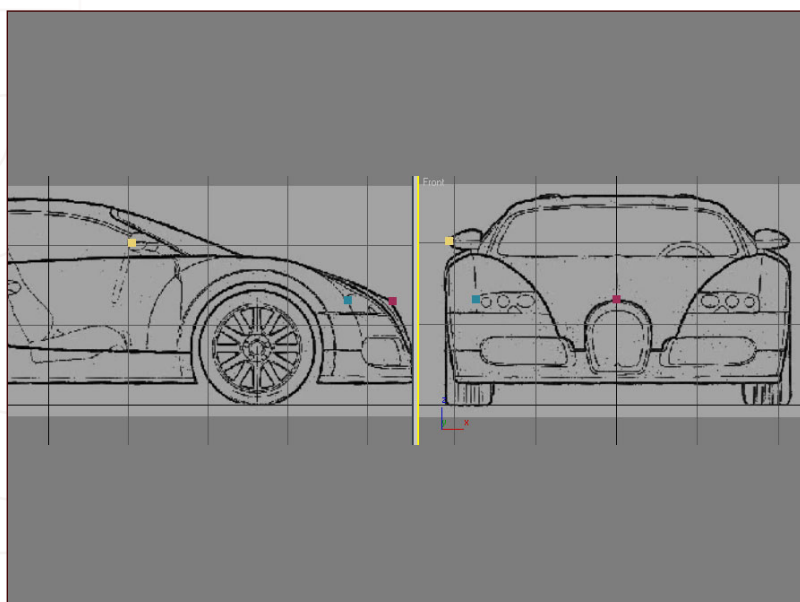

Fig 05
5. After you have all the blueprints you can check if they are placed correctly by placing temporary reference objects in unique places on the blueprints, or by moving the blueprints interactively and having them intersect and seeing if all the lines match as they should (**Fig05**).